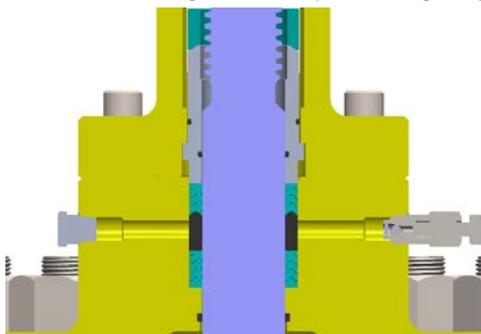
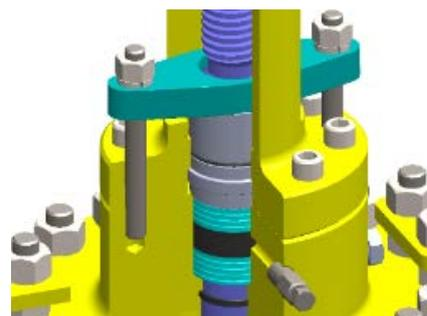

Figure 7
Figure 8
- b) The stem is sealed with a unique design reinforced PTFE stem packing to provide excellent resistance to chemicals and corrosive elements as shown in Figure 7. The packing box has provision for emergency stem sealant injection in case of a stem packing leakage. In addition, packing can also be energized by tightening two packing gland nuts as shown in Figure 8. Thus the stem sealing has multiple emergency contingency in case of a leakage.
The geothermal wellhead gate valves are designed with a packing gland and follower plate as illustrated in Figure 8. In the event of damage to the stem packing which causes a leak, operating as per **Section 3, 3.3 (b)** to eliminate the leakage.